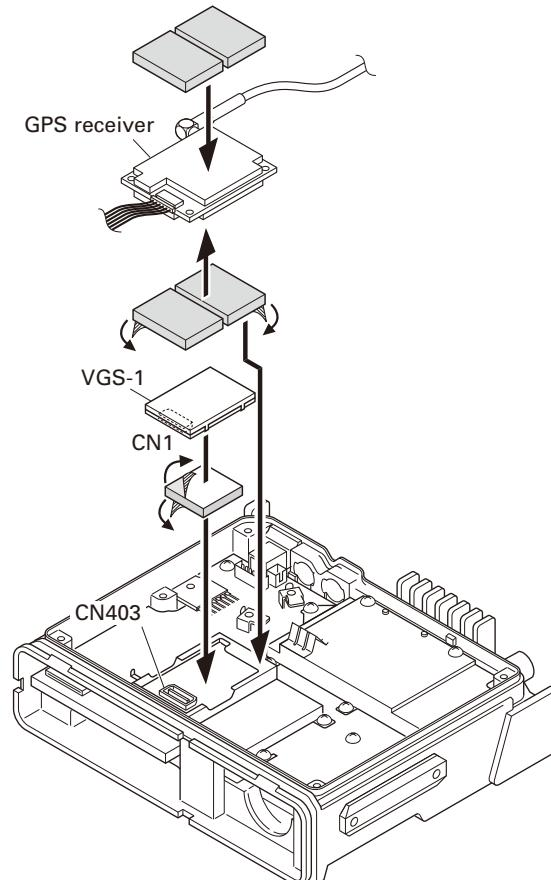

Fig. 7-5
3. Attach a cushion to the bottom of the VGS-1 as shown in Figure 7-5.